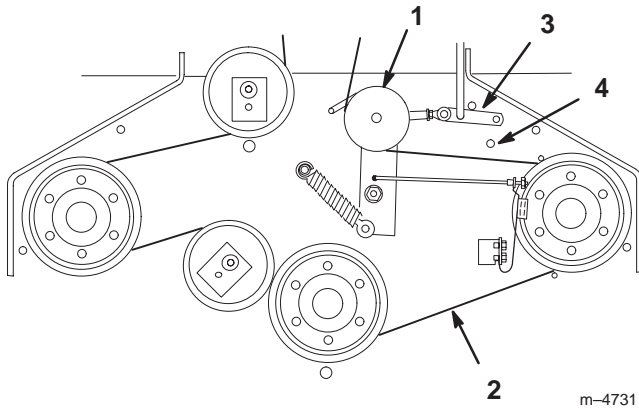
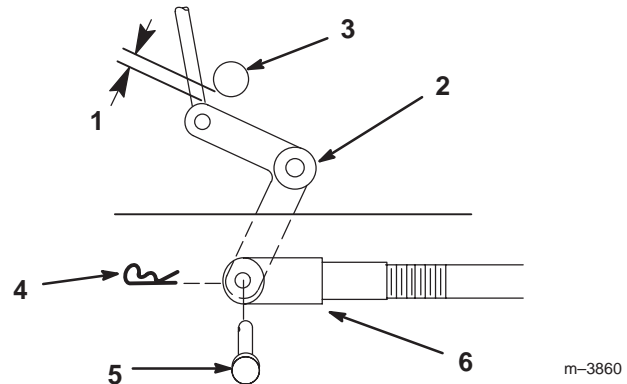

Figure 45
Figure 46
3. Remove mower belt (Fig. 45).
7. Install the mower belt (Fig. 45).
3. Remove idler pulley and then remove worn belt (Fig. 45).
Note: Proper belt tension is 10–15 lbs. with the belt deflected a 1/2” (13mm) halfway between pulleys (Fig. 45).
7. Engage PTO lever and check the clearance between the bellcrank and the transmission output shaft (Fig. 46). Space should be 1/16” (2mm)–1/8” (3mm).
8. Remove hairpin cotter and clevis pin from bellcrank. Rotate clevis clockwise on rod to increase or counterclockwise to decrease clearance (Fig. 46).
9. Disengage the PTO. If the assist arm does not contact the front stop on the mower deck (Fig. 45), readjust the clevis to bring the bellcrank closer to the transmission output shaft (Fig. 46).